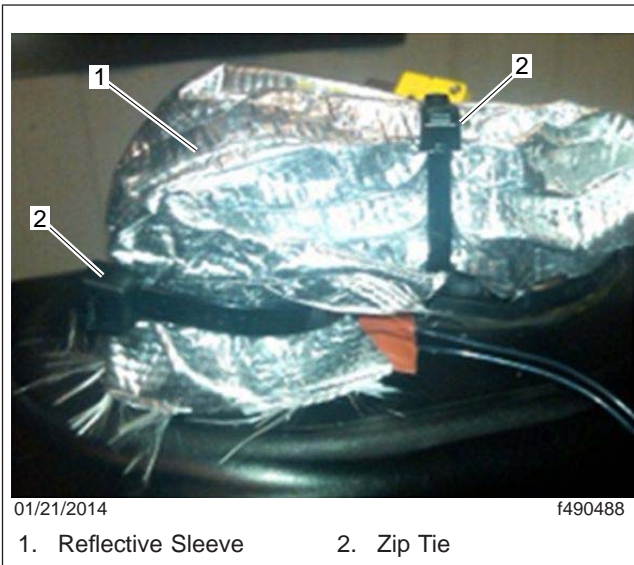

Fig. 4, Installing the Reflective Sleeve
11. Position the reflective sleeve over the fitting and insulation, then secure it with zip ties as needed. See Fig.4.